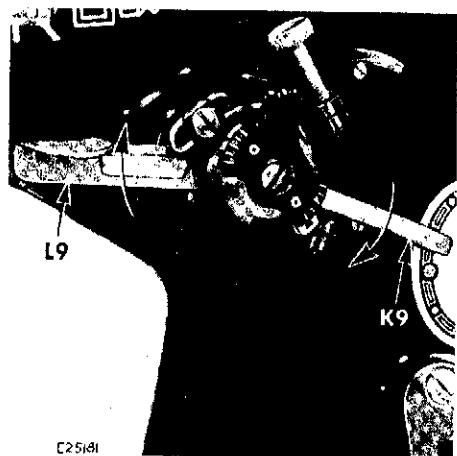

Fig. 204
**SETTINGS:** Bight control lever **K9** at **lowest** point and position lever **L9** at **highest** point as shown in **Fig. 204.**